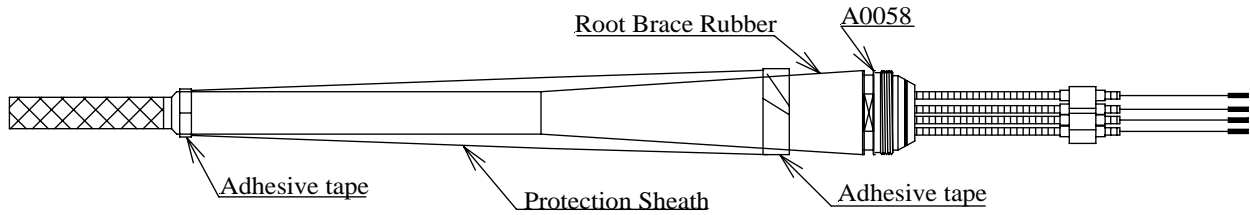

Fig.3-1-1
- 2) Protect Insertion Flex. Tube and Root Brace Rubber from smearing with MK-Powder (MLY/RM3203) as shown in above Fig.3-1-1.